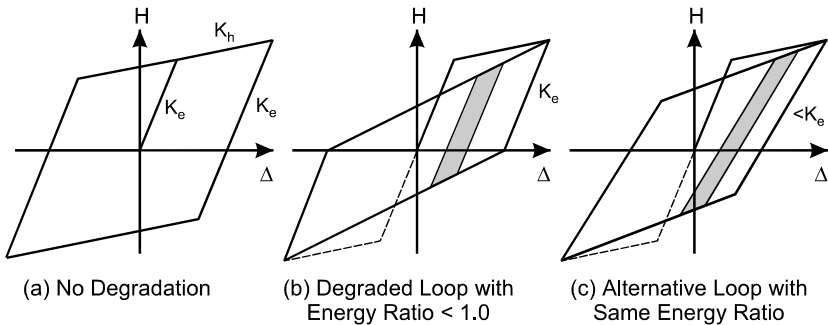

Figure 28.11 Hysteresis Loops
Figure 28.11 shows three hysteresis loops for a simple structure. If there is no stiffness degradation, the loop might be as shown in Figure
28.11(a). In most cases, however, there will be stiffness degradation, and the loop might be as shown in Figure 28.11(b) or (c).
For the loop in Figure 28.11(a) the energy ratio is 1.0. For the loop in Figure 28.11(b) the energy ratio is 0.5 for all ductility ratios if  $K_h = 0$ . If  $K_h > 0$  the ratio increases somewhat as the ductility ratio increases. The loop in Figure 28.11(c) also has an energy ratio of about 0.5. There are many possible loops that give the same energy ratio. Other ratios can be obtained by changing the details of the loop.
The energy ratio applies for full amplitude deformation cycles. The shaded bands in Figure 28.11 show loops for small amplitude cycles. If the energy ratio for a small amplitude cycle is the ratio of the degraded area to the non-degraded area for the same deformation range, this ratio is not necessarily the same as for a full amplitude cycle. Also, it is not the same in Figures 28.11(b) and (c). This illustrates the inherent difficulty in accounting for stiffness and energy degradation.
- (1) In the FEMA 356 Coefficient Method, the coefficient  $C_2$  depends on whether the structure degrades. For a degrading structure,  $C_2$  also depends on the performance level (Immediate Occupancy, Life Safety or Collapse Prevention), increasing from the IO to the CP level. In effect, this means that the energy ratio decreases as the ductility ratio increases, but the relationship is not explicitly specified.
- (2) The FEMA 440 Coefficient Method is calibrated for certain hysteresis loops, two of which are those in Figures 28.11(a) and (b). The equations for  $C_2$  are different in the non-degrading and degrading cases.
- (3) The FEMA 440 Linearization Method is calibrated for certain hysteresis loops, two of which are those in Figures 28.11(a) and (b), with different calibration equations for the non-degrading and degrading cases.
- (4) In the ATC 40 Capacity Spectrum Method the damping ratio is calculated at the trial point, using Equation 3.19. The energy ratio depends on the non-degraded energy and the structure behavior type (Type A, B or C). The energy ratios are specified by ATC 40. For each behavior type the ratio decreases as the non-degraded energy increases. The energy ratios are largest for Type A, and